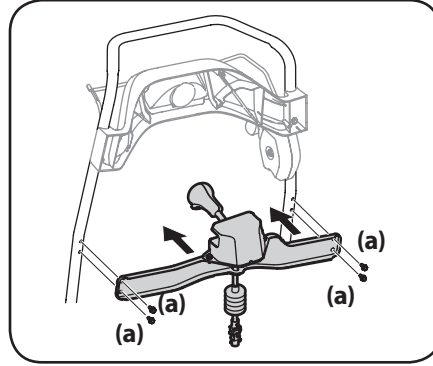

Figure 2-12
2. Using the hex washer screws (a), install the chute rotation control assembly. See Figure 2-12.